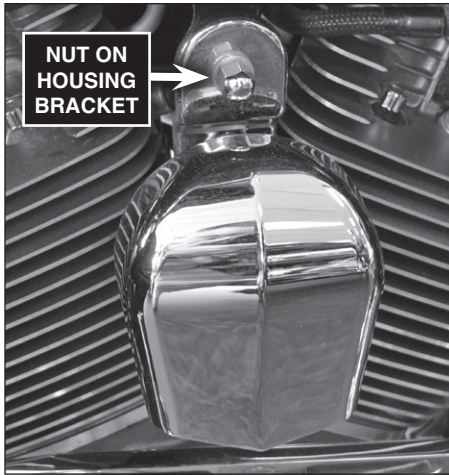

Fig. 1
1. The factory horn is secured inside the horn housing. The horn housing is removed from the motorcycle by removing the nut, which secures the housing's bracket to the motorcycle. See Fig. 1.
- 35A. Remove the nut that is securing the hanger bracket of the horn housing. See Fig. 1.